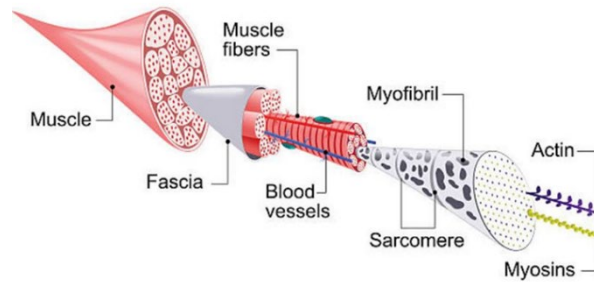

Figure 3.14: Hierarchical Structure of Skeletal Muscle Tissue
Skeletal muscle fibres (see **Figure 3.14**) are made up of small bundles called **myofibrils**. These myofibrils contain **sarcomeres**, which are the parts that help the muscle contract. Inside each sarcomere are two types of protein threads:
1. Look at a picture of the musculoskeletal system, like Figure 3.14. This shows how bones and muscles are connected.